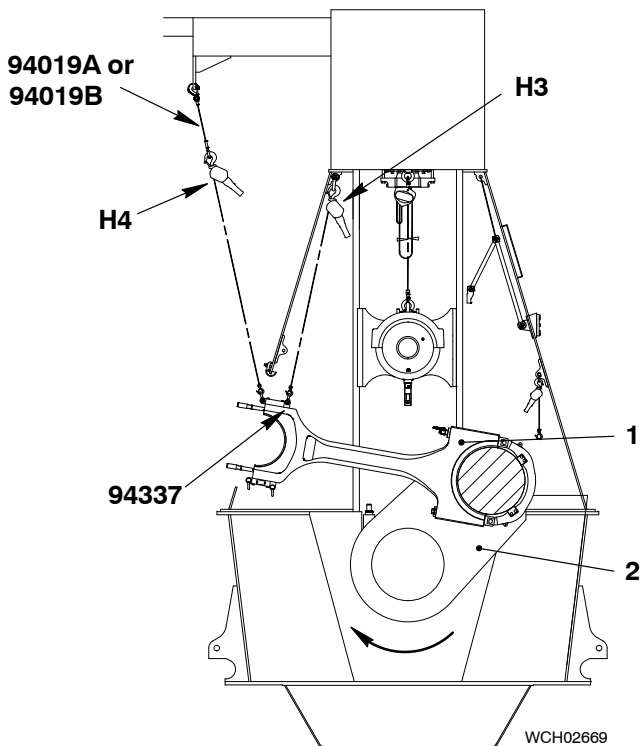

Fig. 14
- 20) Operate the turning gear and the manual ratchet (H4, Fig. 14) to move the connecting rod (1) and crankshaft (2) clockwise to the position shown.